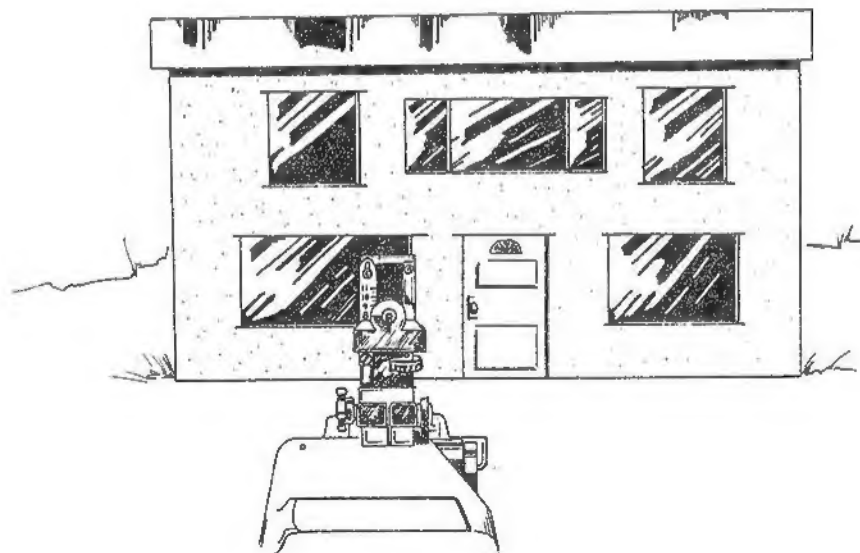
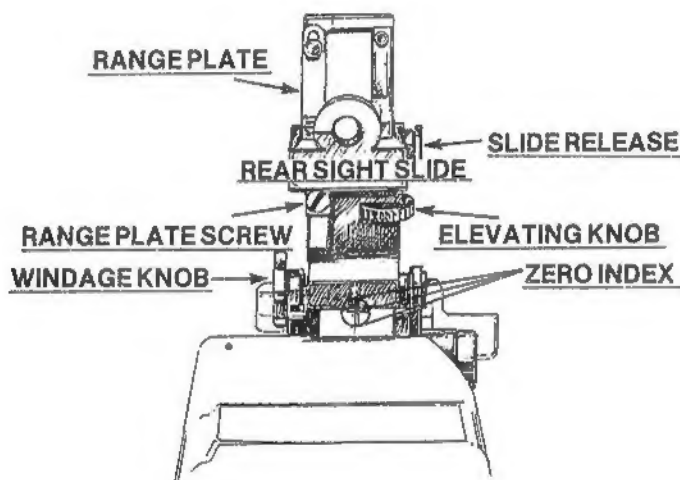
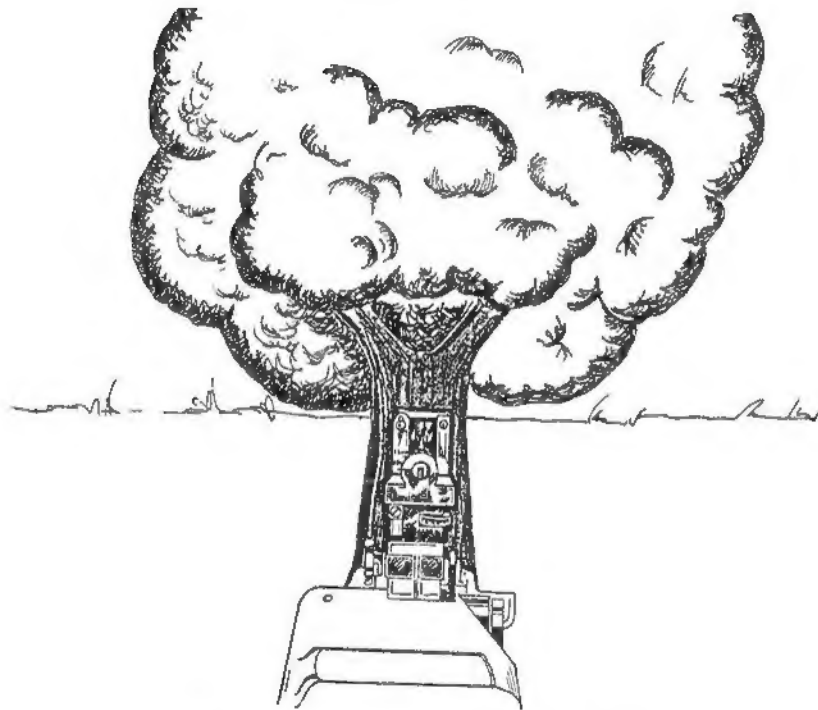
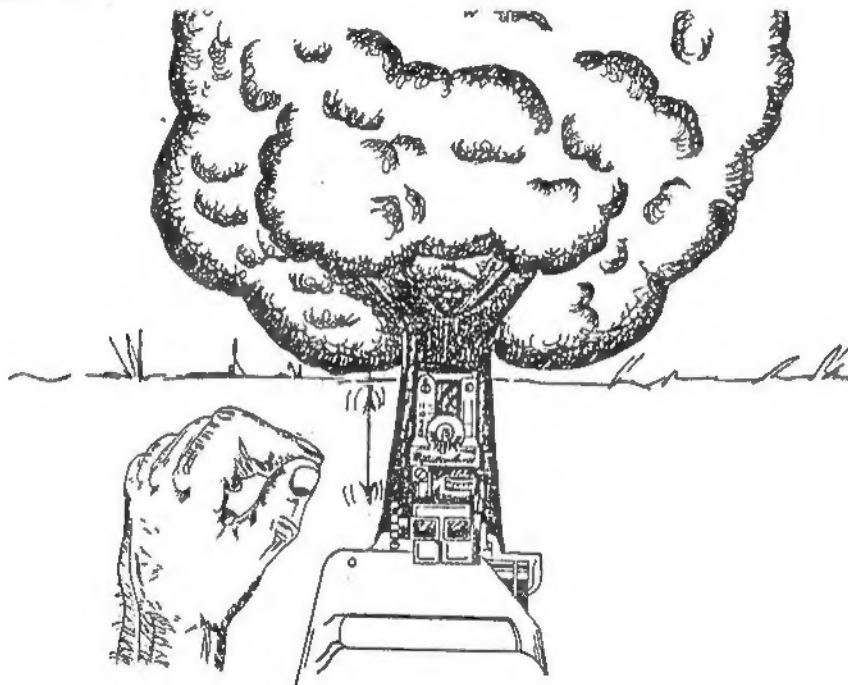

Figure 2-4. — Adjusted Sight Picture.
Figure 2-5. — Elevation/Windage Knob.
Figure 2-6. — Corrected Sight Picture.
Figure 2-7. — Adjusting Range Plate.
Notice, in Figure 2-4, that the rear sight is still set on a range of 800, but the sight is not aimed at the target (tree) because the gunner moved the weapon so the rounds hit the target. The gunner directs the team leader to turn the elevation and windage knobs (Figure 2-5) until the gunner again has a good sight picture on the target (Figure 2-6). The gunner does NOT move the T&E mechanism.
The sight picture is on our target, but notice that the range on the sight is 900 meters instead of the squad leader's estimate range of 800 meters (Figure 2-6). The final step in field zeroing will be to correct this estimate.
**4. Adjustment of the Range Plate.** To correct the range on the range plate on the sight, the team leader loosens the range plate screw (Figure 2-5) and moves the range plate up or down until the original range is on the rear sight (Figure 2-7).